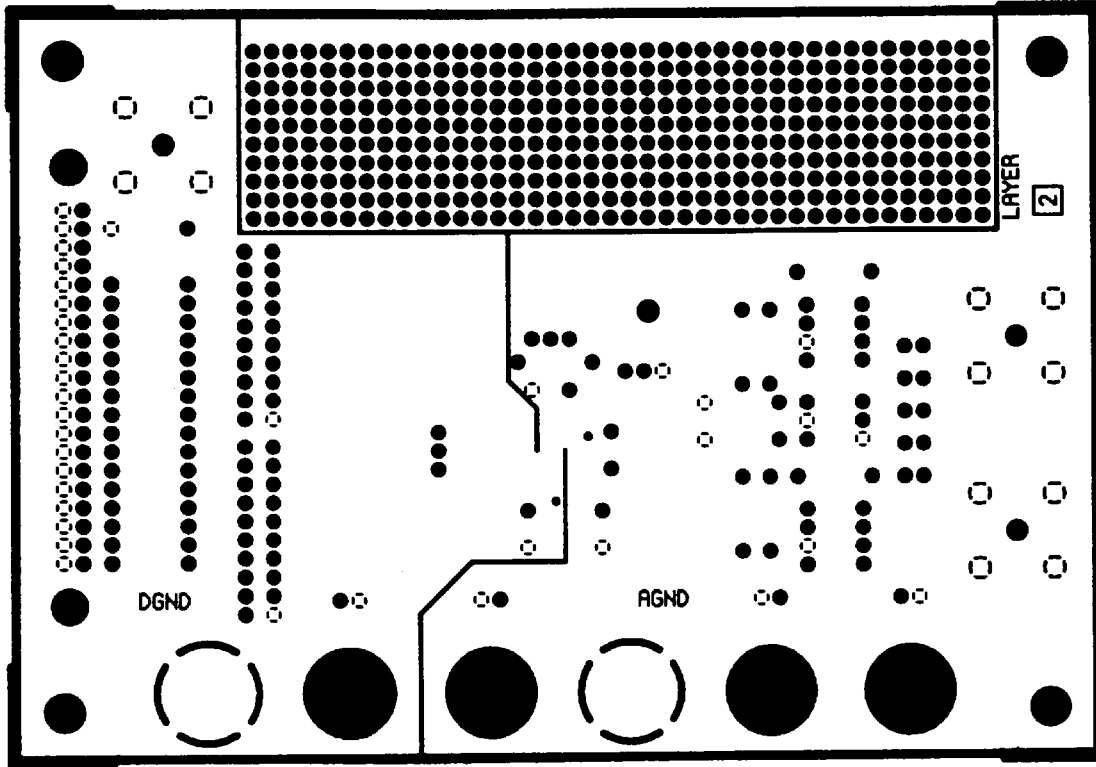

Figure 28. Printed Circuit Board Ground Plane Layout
Maintaining low noise on power supplies and ground is critical to obtaining optimum results from the AD768. Figure 28 provides an illustration of the recommended printed circuit board ground plane layout which is implemented on the AD768 evaluation board.
All analog ground pins of the DAC, reference, and other analog output components, should be tied directly to the analog ground plane. The two ground planes should be connected by a path 1/4 to 1/2 inch wide underneath or within 1/2 inch of the DAC as shown in Figure 28. Care should be taken to ensure that the ground plane is uninterrupted over crucial signal paths. On the digital side, this includes the digital input lines running to the DAC as well as any clock signals. On the analog side, this includes the DAC output signal, reference signal, and the supply feeders.
Figures 28 and 29 show the AD768-EB ground and power plane layouts. Figures 35-38 show the schematic diagram, trace routing, silk screening, and component layout for the AD768 4 layer evaluation board.
Separate ground and power planes have several advantages for high speed layouts. (For further information outlining these advantages, see the application note "Design and Layout of a Video Graphics System for Reduced EMI" [E1309] available from Analog Devices [(617) 461-3392].) A solid ground plane can be used if the digital return current can be routed such that it does not modulate the analog ground plane. If this is not possible, it may be necessary to split the ground plane in order to force currents to flow in a controlled direction. This type of grounding scheme is shown in the Figure 28. The ground plane is separated into analog and digital planes that are joined together under the AD768. In any case, the AD768 should be treated as an analog component and a common ground connection should be made underneath the AD768 despite some pins being labeled "digital" ground and some as "analog" ground.